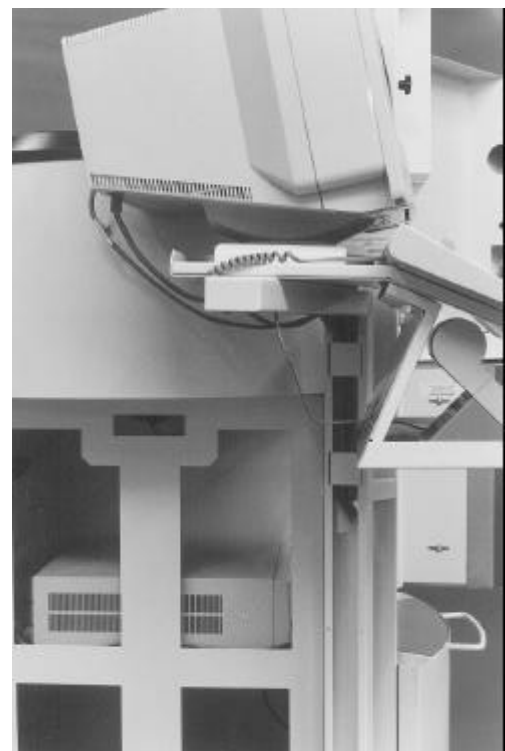

figure 9
- Feed the keyboard and monitor cables through the monitor stand into the machine (and the mouse and label printer cables where applicable). See figure 9. Make sure they are running the right way!